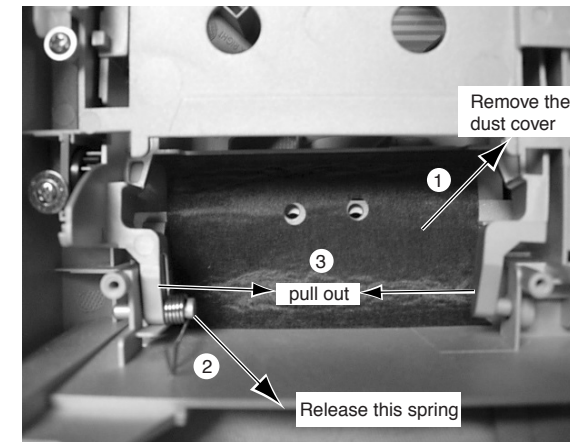

Figure 8
- 3) Pull out the bracket as shown direction in figure 8.